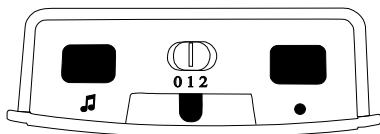

Figure 2: Receiver, upper side
Using the signal mode slide switch (in fig. 2 "0 1 2") you can select the signal mode. Kindly keep in mind that the symbols are always displayed with coloured light diodes.
- a) Keep the function button »●« (fig. 2) pressed for some time. The icons light up in sequence. Let go of the button as soon as you see the desired icon.